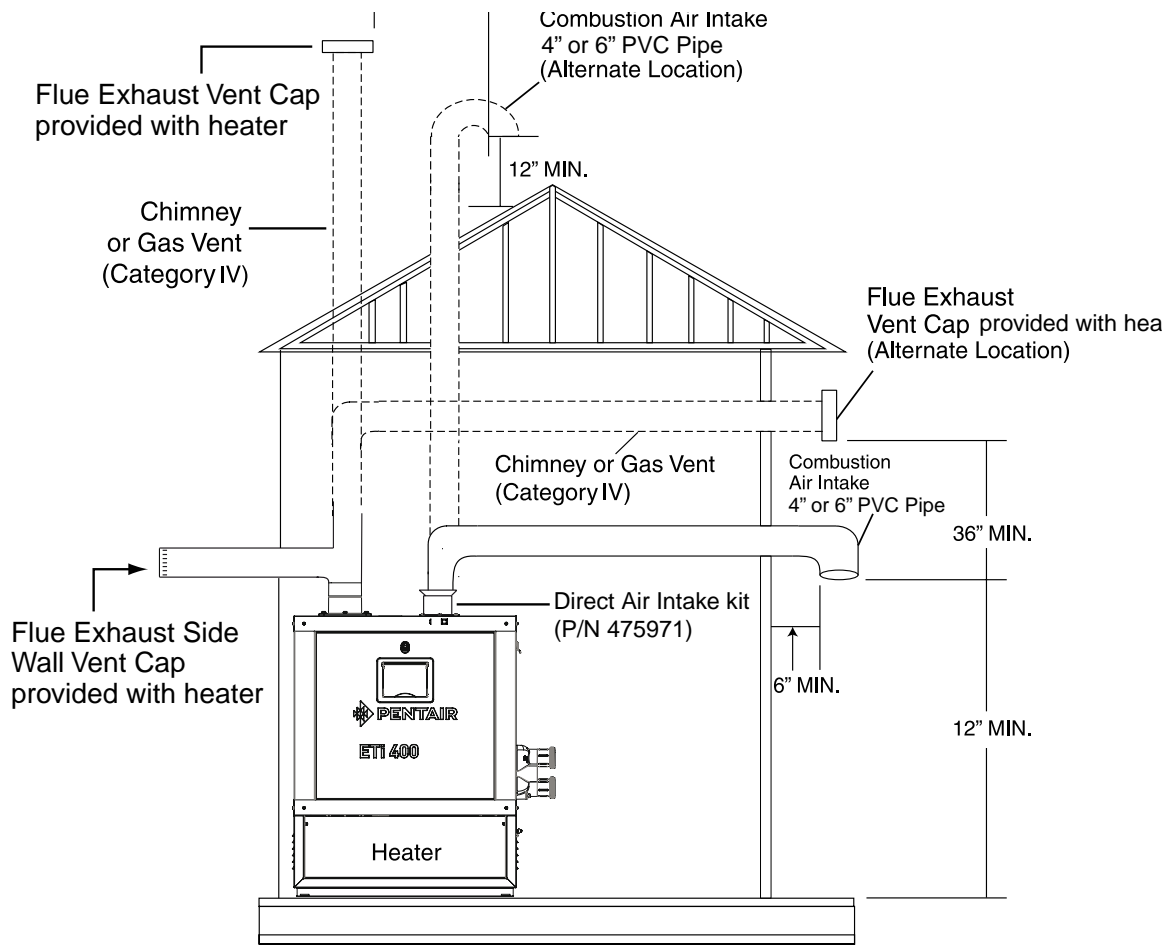
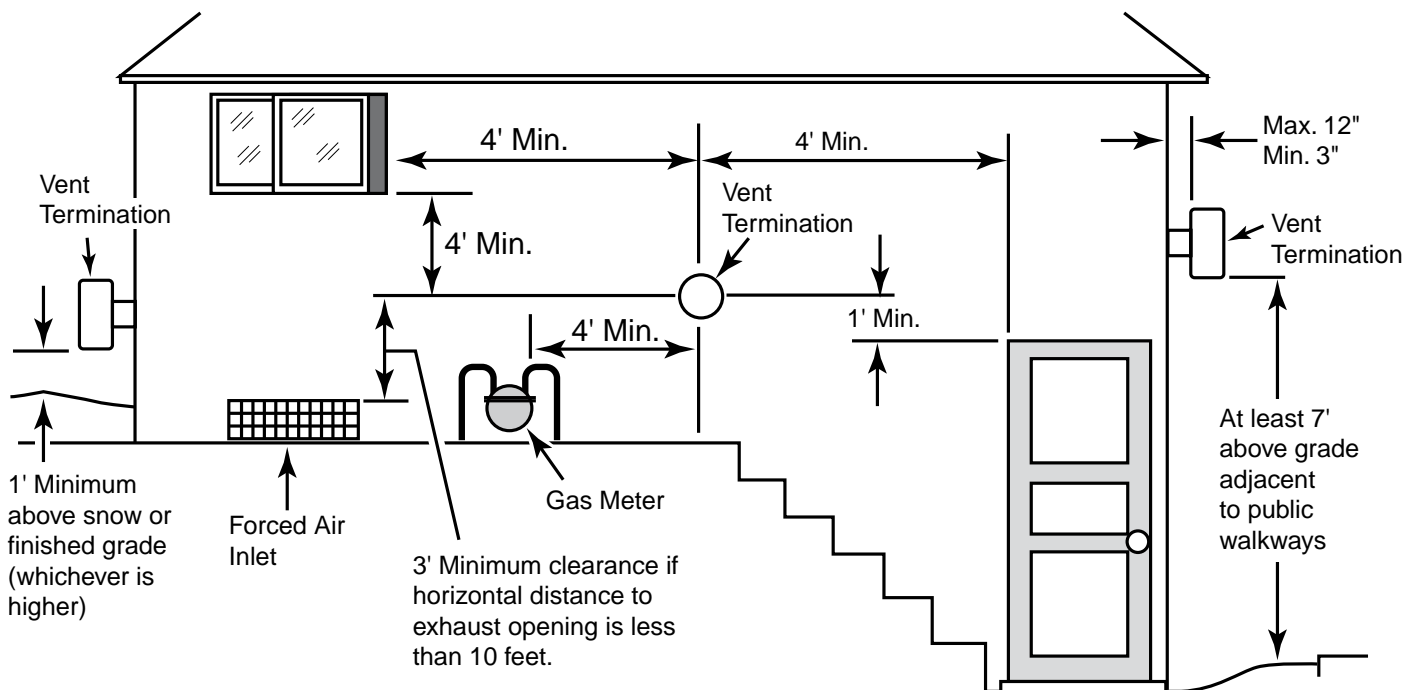
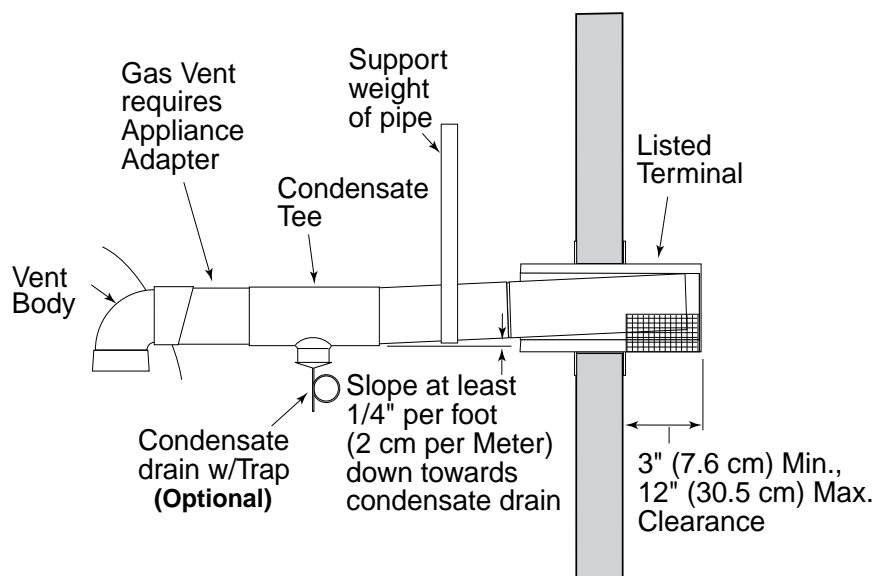
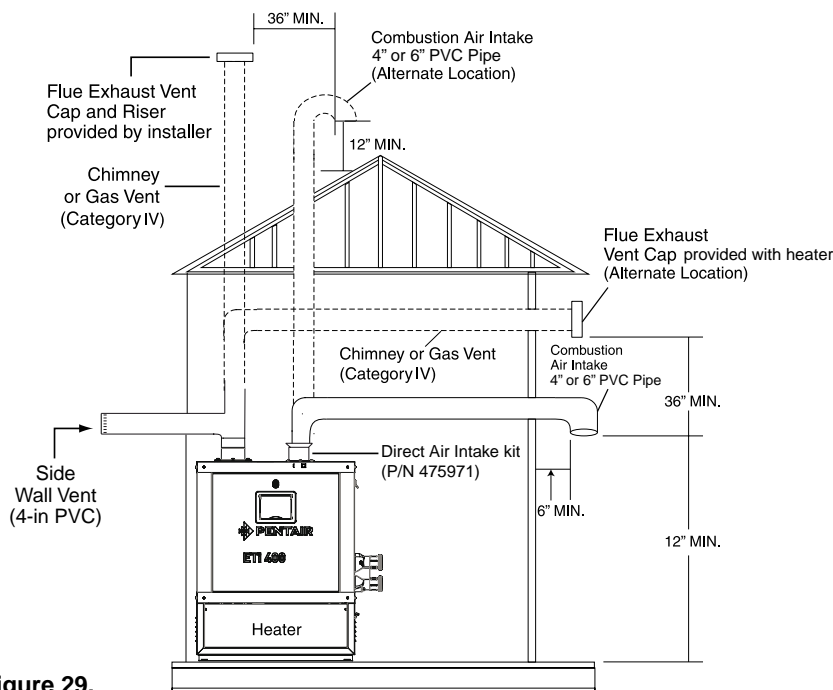

Figure 24.
Figure 27.
Figure 28.
Figure 29.
An appliance that operates with a *positive* vent static pressure and with a vent gas temperature that allows excessive condensate production in the vent, see Figure 24 (page 30) and Figure 27, page 34.
The air intake opening **MUST** be installed at least 1 ft. above the roof line or normal snow levels for free air flow. The Category IV exhaust vent termination cap must have at least 3 ft. (1 m) minimum vertical clearance from air intake duct, see Figure 24.
**(See Figure 28, page 35 and Figure 29, page 36)**
3. **Vent Termination:** Vertical (See Figure 27 below and Figure 29 on page 36), for height of vent termination above the roof. Use an *Approved* vent terminal specified by local and national codes and your manufacturer's instructions. A roof termination must be vertical. In Canada, the Vent Cap location shall have a minimum clearance of 4 feet (1.2M) horizontally from electric meters, gas meters, regulators, and relief openings.
The terminal must be located (U.S. – See Figure 27 on page 34):
- at least 3" and at most 12" out from the wall (see Figure 29 on page 36), following the vent manufacturer's instructions
The terminal must be located (Canada – See Figure 27 on page 34):
The flue direct vent cap MUST be mounted on the exterior of the building. The direct vent cap cannot be installed in a well or below grade. The direct vent cap must be installed at least 1' (0.3 m) above ground level and above normal snow levels, see Figure 27, page 34. The direct vent cap MUST NOT be installed with any combustion air inlet directly above a direct vent cap. This vertical spacing would allow the flue products from the direct vent cap to be pulled into the combustion air intake installed above.
It is recommended that the intake vent (see Figure 29 below) be insulated in colder climates.